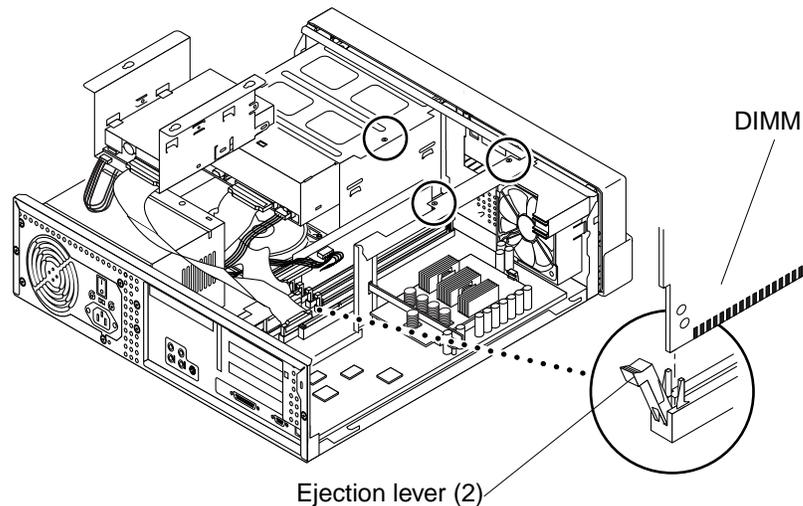

FIGURE 8-3 Removing and Replacing a DIMM
4. **Push the ejection levers away from the DIMM (FIGURE 8-3).**
2. Install the DIMM as follows: (FIGURE 8-3)